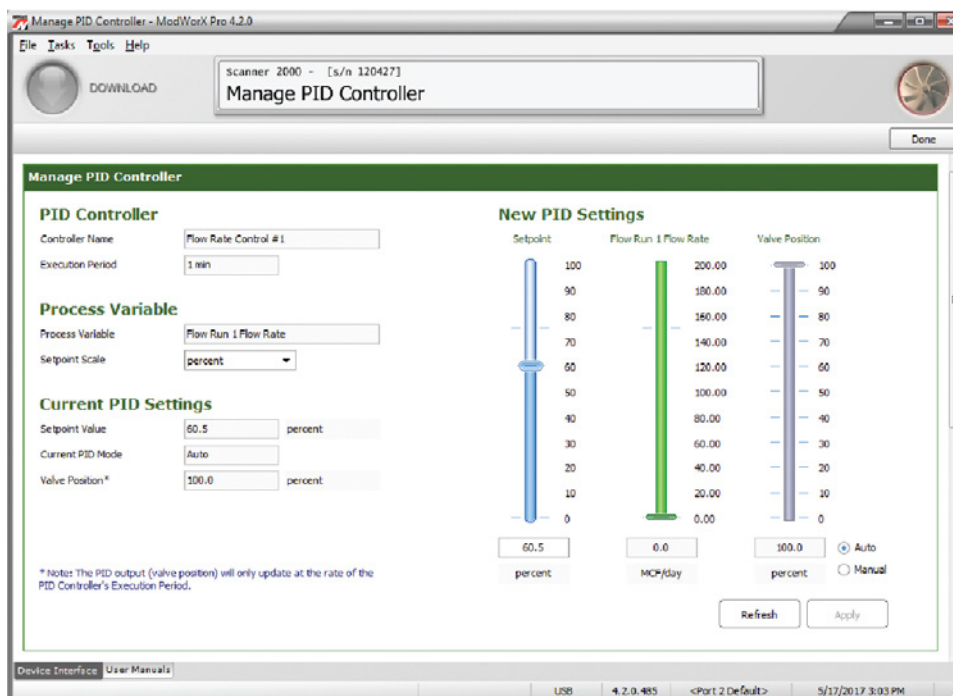
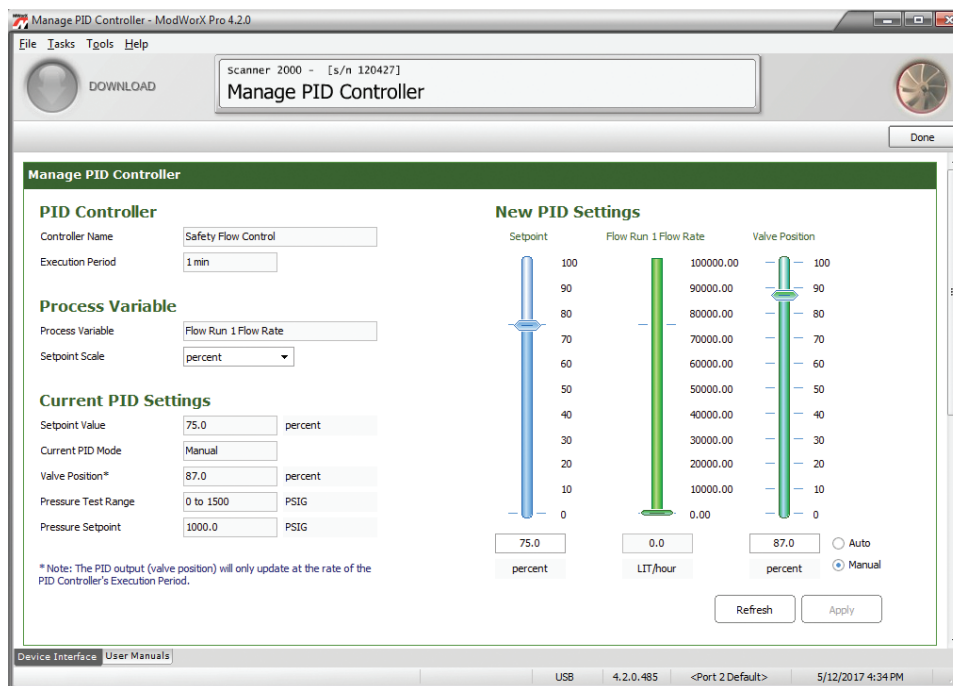

Figure B.8
Figure B.9
1. From the Scanner 2000 Main Display screen, click **Manage PID**. Figure B.8, page B-8 shows a Manage PID Controller screen for a simple controller and Figure B.9, page B-8 shows a screen for a PID controller with pressure override.